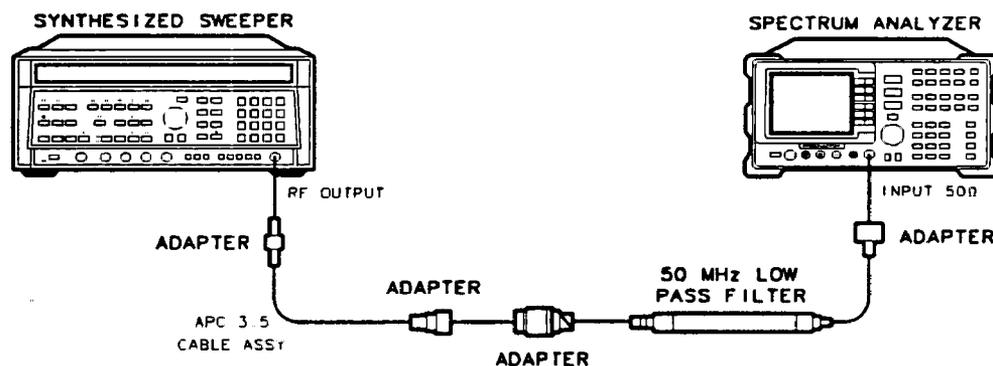

Figure 4-18. Second Harmonic Distortion Test Setup
2. Connect the equipment as shown in Figure 4-18.